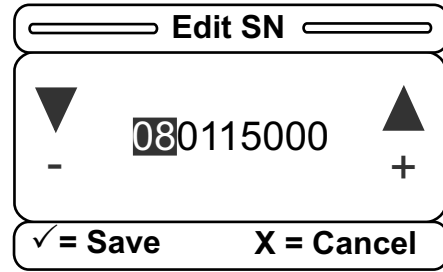

Figure 49 – Edit serial number
25. If you select **Edit SN**, the Edit SN screen displays (Figure 49).